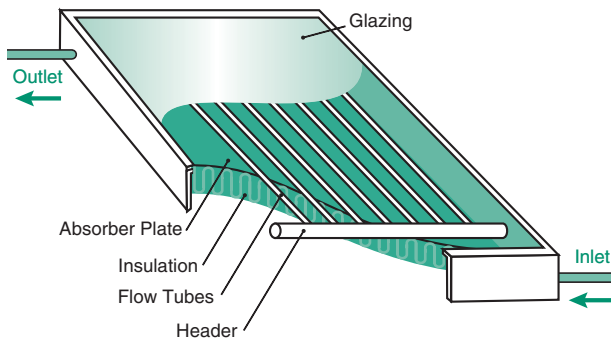

Figure 1: Example of how a flat plate solar collector works.
- **A solar collector** — through which pool water is circulated to be heated by the sun, *see Figure 1*;